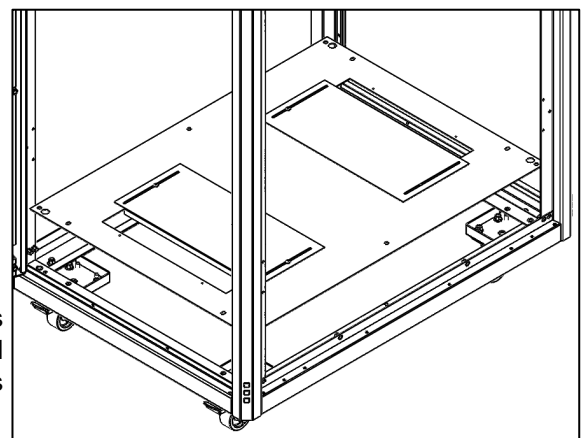

Figure 14
Place the Bottom case as shown on the **Figure 14** and Tighten M5x15 YSB Screws (B)